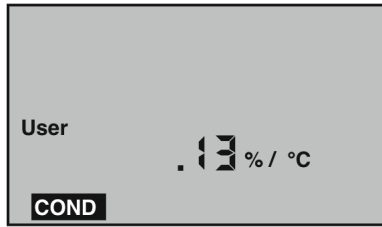

Figure 2
- b. With User mode now selected, press $\text{\textcircled{\frac{CAL}{MCLR}}}$. You may now adjust a temperature compensation from .00%/°C to 9.99%/°C, by pressing $\text{\textcircled{\frac{\blacktriangle}{MS}}}$ or $\text{\textcircled{\frac{MR}{\blacktriangledown}}}$. See example in Figure 2, pg. 25.